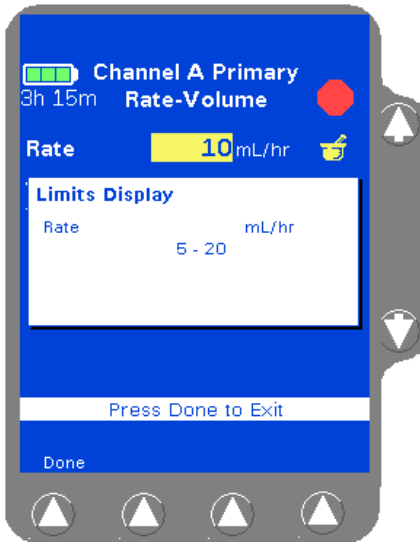

Figure 4-35 COLLEAGUE GUARDIAN Limits Display Pop-up
4. (Optional) To view a pop-up window (Figure 4-35) showing the limits programmed for the label, highlight the **Rate** field, then press the **View Limits** soft key. Press the **Done** soft key to close the pop-up and continue.